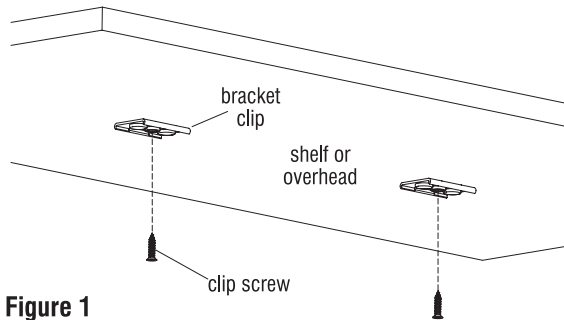

Figure 1
2. Center and evenly space clips across your fixture. Ensure both clips are oriented in the same direction and screw bracket clips to fixture in desired location (Figure 1).